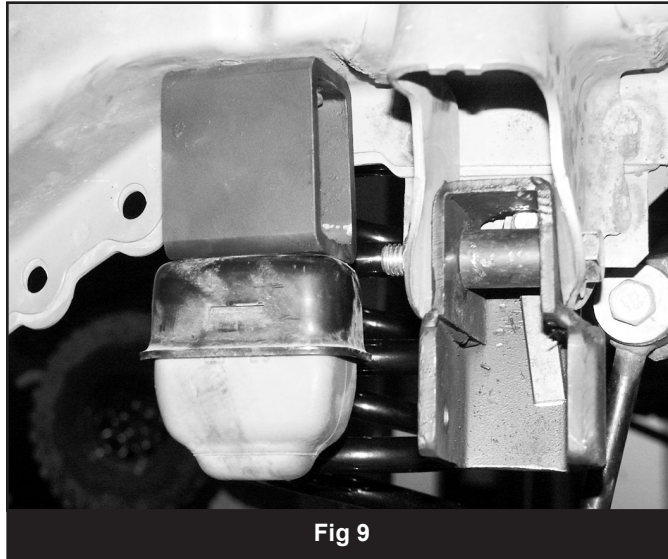

Fig 9
22. Install the provided front bump stop spacers (01489) in conjunction with the OE bump stop mounting cups (Fig 9). Run the provided 8mm x 100mm bolts and 5/16" USS washers (BP #725) through the OE mounting cup, the new spacers and into the original threaded mounting holes in the frame. Use Loctite on the threads and torque bolts to 15 ft-lbs.